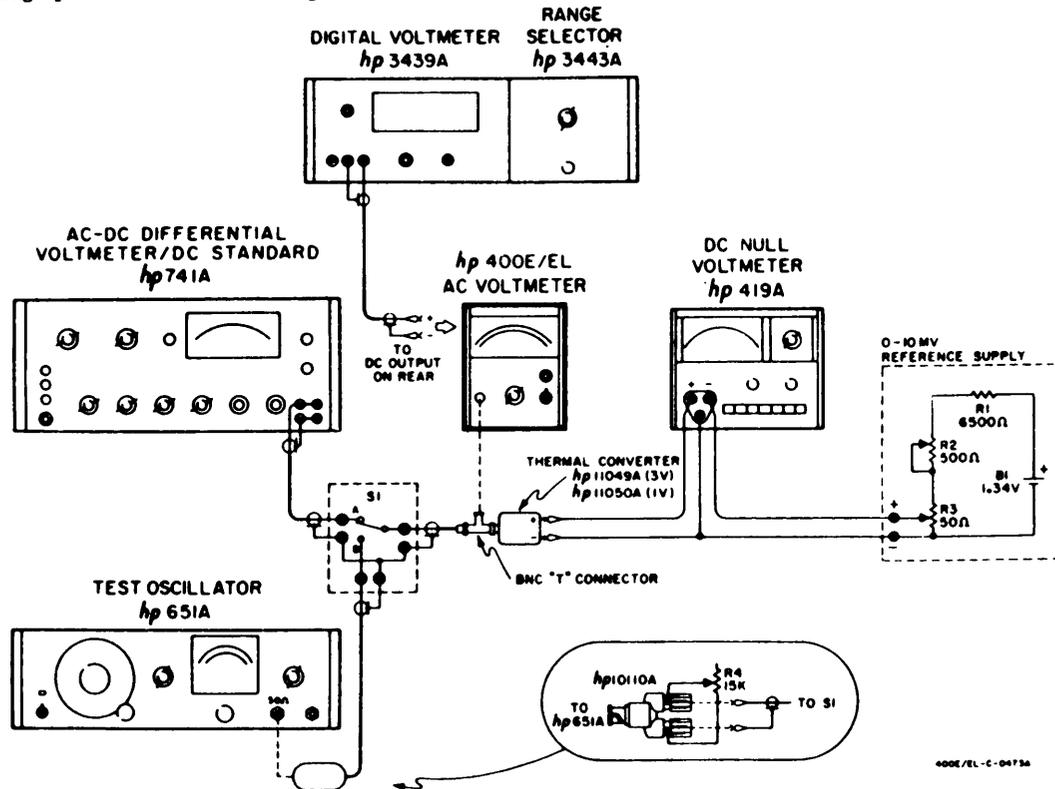

Figure 5-1. Accuracy and Frequency Response Test Setup
5-11. The test setup in Figure 5-1 uses a thermal converter with a null circuit to adjust the frequency re-
sponse of the test oscillator to within 0.2% over its entire band. Construct the 0 to 10 mv Reference Supply shown in Figure 5-1 and allow it at least 24 hours to stabilize.
- a. Connect the dc standard, the 400E/EL, the null voltmeter, the reference supply, and a 3 volt thermal converter as shown in Figure 5-1. Set switch S1 to position A connecting the dc standard output to the thermal converter input. The reference supply and the thermal converter are sensitive to variations in ambient temperature. Ensure that the ambient temperature variations are less than  $\pm 2.0^{\circ}\text{C}$ .
Paragraphs 5-16 to 5-17 and Figure 5-1
- a. Set switch S-1 in figure 5-1 to position B, connecting the test oscillator to the thermal converter input. Connect the digital voltmeter to the 400E/EL DC OUTPUT terminals.
- c. Using the oscillator amplitude control as coarse adjustment and resistor R4 (Figure 5-1) as fine adjustment, increase the oscillator amplitude until the thermal converter output nulls the reference supply. Observe the 400E/EL meter indication and dc output.
- a. Connect the dc standard, 3 volt thermal converter, dc null voltmeter, and reference supply as shown in Figure 5-1.
- c. Disconnect the dc standard, and connect the test oscillator, the digital voltmeter, and the 400E/EL as shown in Figure 5-1.
- a. Calibrate the reference supply in Figure 5-1 with a 1 volt thermal converter according to the steps in Paragraph 5-10.
- b. Disconnect the dc standard and connect the test oscillator, the 400E/EL, and the digital voltmeter as shown in Figure 5-1. Set the oscillator frequency to 400 Hz and the 400E/EL to the 1 volt range. Using the amplitude control as coarse adjustment and R4 as fine adjustment, increase the oscillator output until the thermal converter output nulls the reference supply.